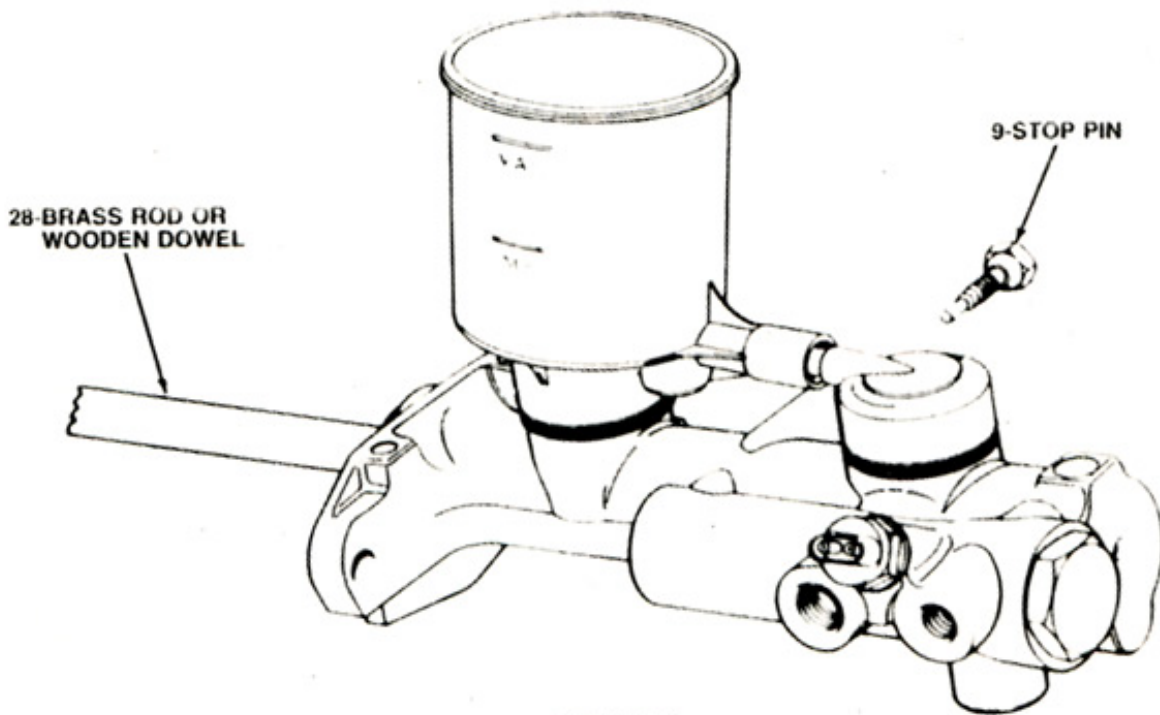

FIGURE 1
3. Fully depress the master cylinder pistons with a brass rod or wooden dowel (28) (as shown in Fig. 1) and remove stop bolt (9). Then remove snap ring (1) with suitable Truarc pliers.